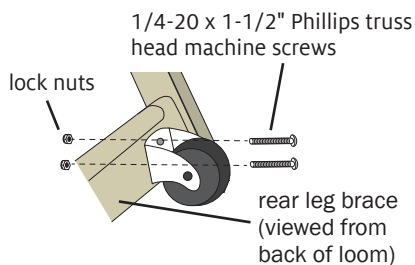

FIGURE 10: INSTALLING THE WHEELS
21. Skip this step if you will install a stroller on your loom. With the loom unfolded, install the wheels. Use two 1/4-20 x 1-1/2" Phillips truss head machine screws and two 1/4-20 lock nuts to attach each wheel to the rear leg brace (Figure 10).